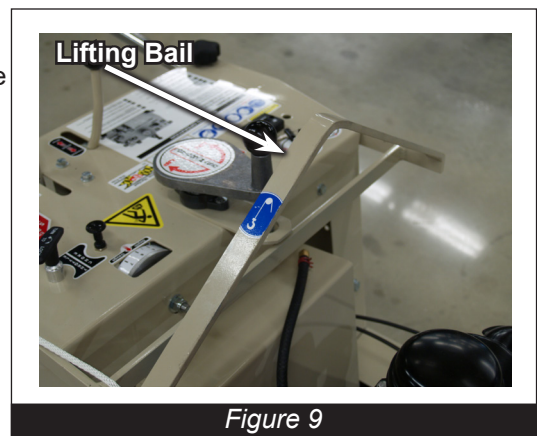

Figure 9
- If hoisting this machine is necessary, use the built in lifting bail. (Figure 9) Use proper hoisting equipment and techniques.